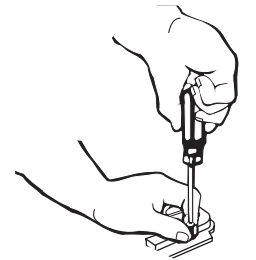

Figure 23
- 8 Align Anti-Tip Bracket holes with holes in floor. Fasten Anti-Tip Bracket with screws. (See Figure 23)